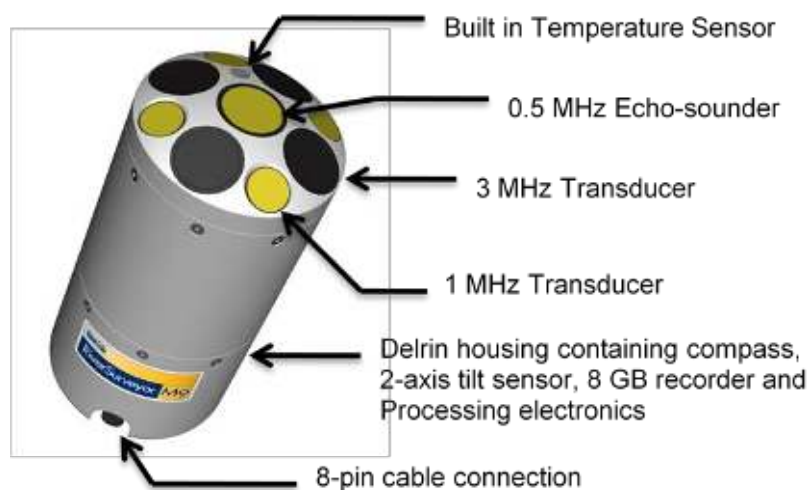

Figure 2. M9 ADP Features
- M9** (Figure 2): This portable, 9-beam ADP with a velocity profiling range of 0.2 to 30 m is intended for use from moving or stationary boats/floating devices in both shallow and deep channels. The M9 has a 5-inch (13-cm) diameter Delrin housing. It has two sets of velocity measurement transducers, both in a Janus configuration – four 3.0-MHz transducers and four 1.0-MHz transducers. A 0.5-MHz vertical acoustic beam (echo sounder) provides depth data.